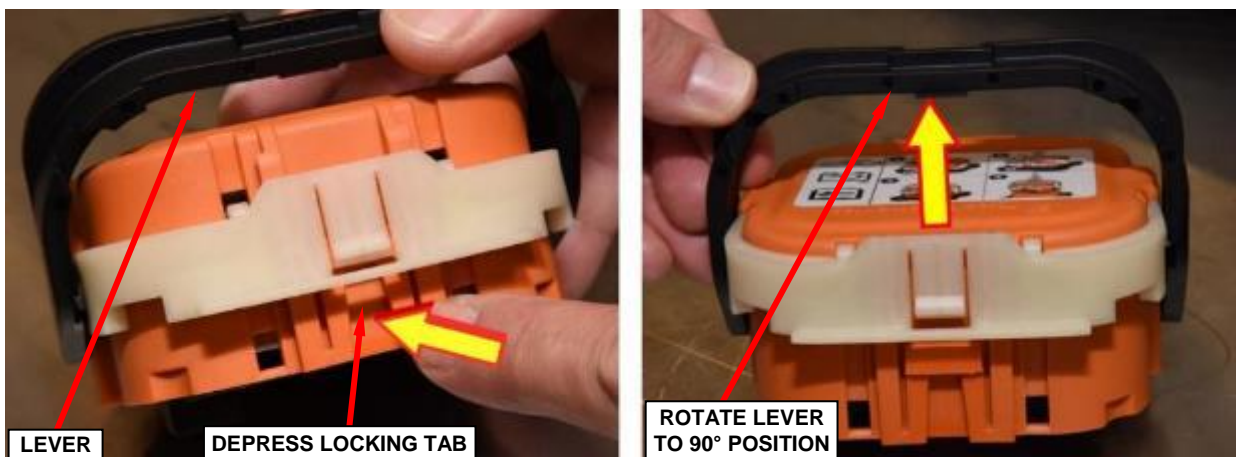

Figure 15 – High-Voltage Manual Service Disconnect Second Stage Latch Release
7. Depress the locking tab and continue to rotate the lever to the end of travel, 90° position (Figure 15).